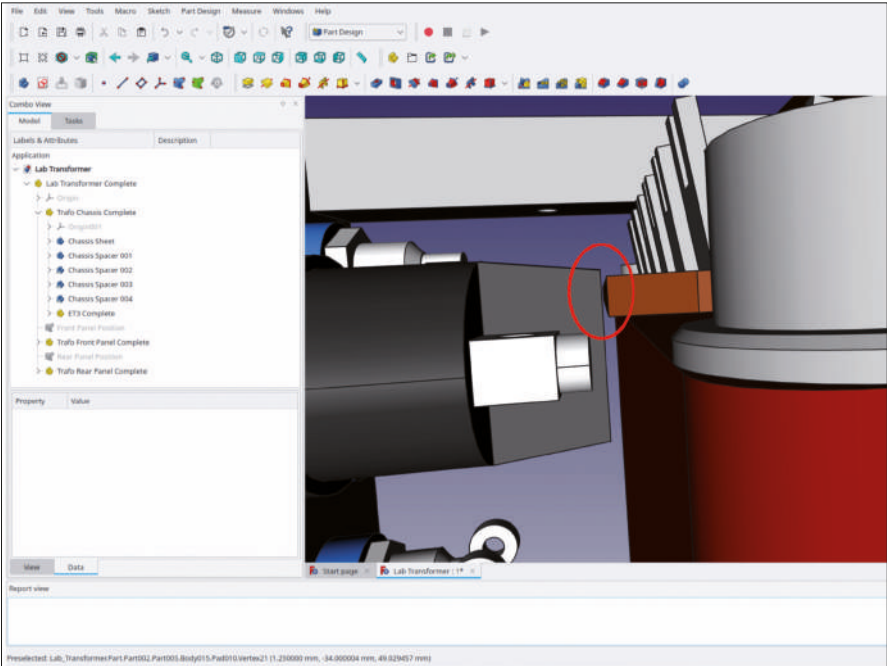

Figure 9-88
23. The visual inspection shows that the pilot lamp is located very close to the transformer terminal strip (Figure 9-88). Even though it should be possible to assemble the unit, the transformer could be moved a bit, in order to gain a little more space. Switch the view to 'Top' and, from the main menu, select 'View | Orthographic view'.